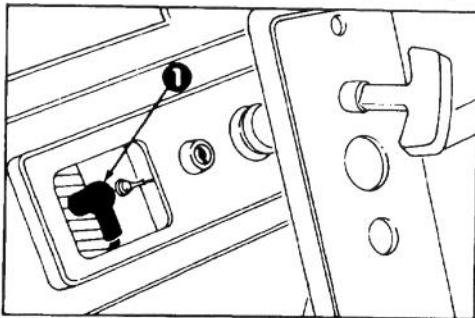

Figure 16
2. REMOVE SPARK PLUG (Fig. 16) – Pull wire off spark plug and remove plug. Examine the plug and replace if cracked, fouled, or